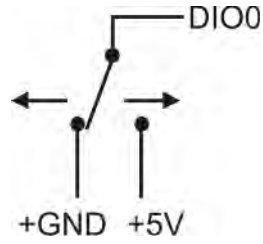

Figure 4. Schematic showing switch detection by digital channel DIO0
When you configure the digital bits for input, you can use the OM-USB-TC digital I/O terminals to detect the state of any TTL-level input. Refer to the schematic shown in Figure 4. If you set the switch to the +5V input, DIO0 reads *TRUE* (1). If you move the switch to GND, DIO0 reads *FALSE* (0).